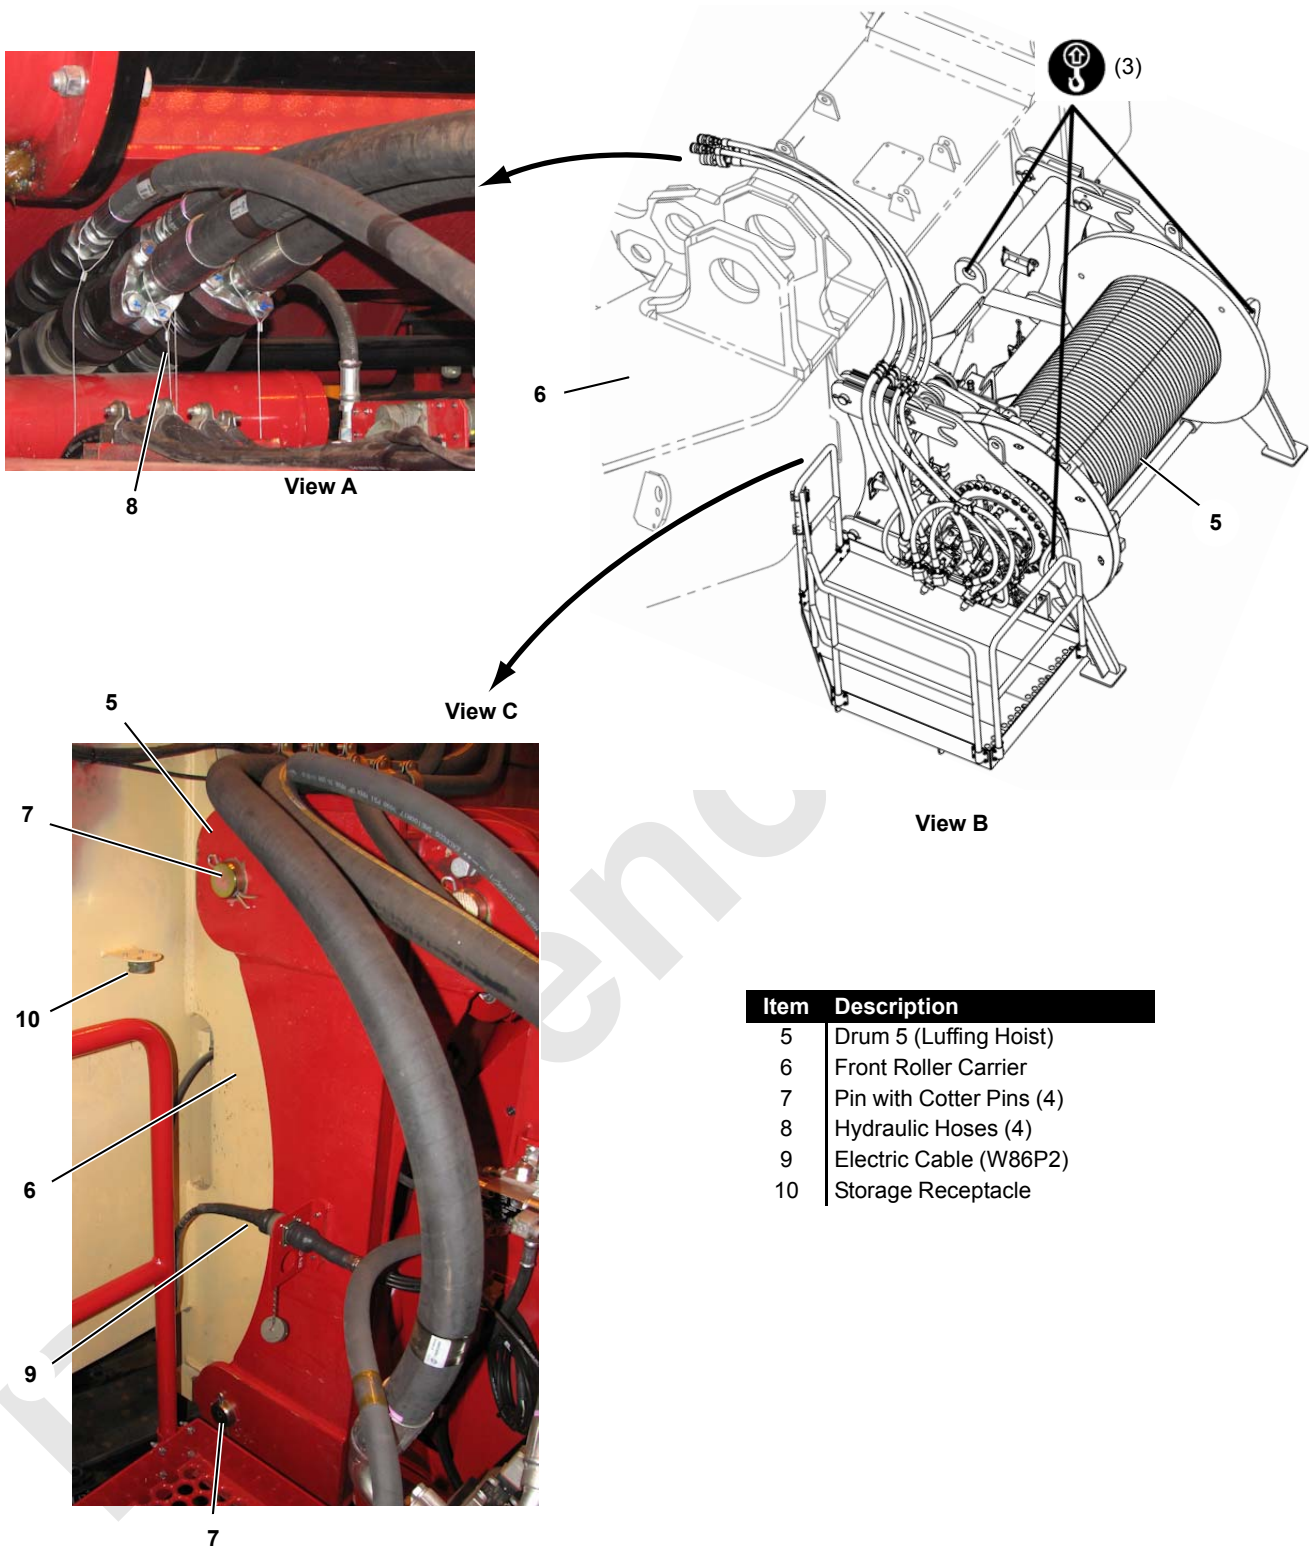

FIGURE 4-51
See Figure 4-51 for the following procedure.
1. Lift drum (5) as shown in Figure 4-51.